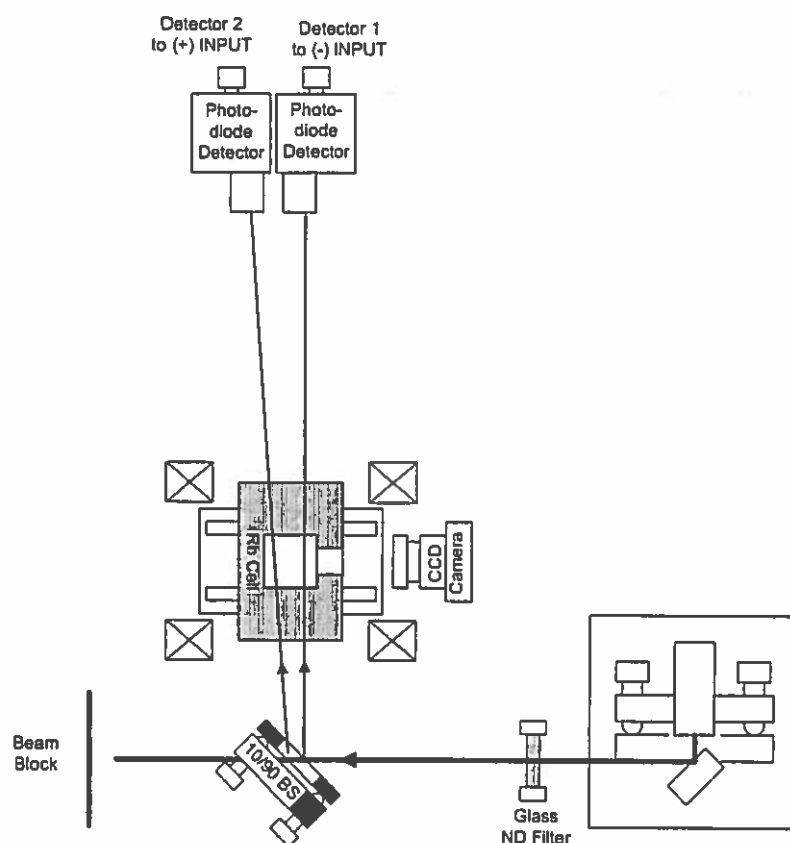

Figure 2. Start of SAS setup with  $1^\circ$  wedged beam splitter in place
2. Reconfigure the apparatus you have been using into the layout shown in Figure 2. (This is only part of the complete SAS setup. We'll add the rest later.)